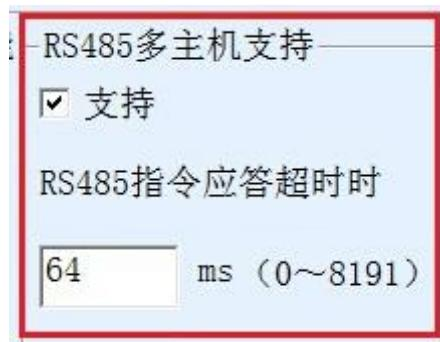
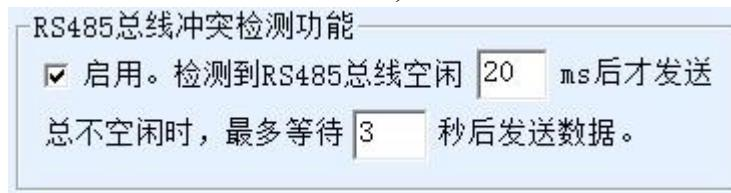

Figure 54 RS485 multi-host support
Figure 55 RS485 anti-collision idle time
1. Figure 55 shows the "RS485 bus anti-collision time", which can generally be set to twice the "packet interval" in the lower right corner of the parameter configuration interface, but the minimum cannot be less than 20.
2. Figure 54 shows the "RS485 command response timeout", which is generally determined based on the command length of the incoming and outgoing response. If the sent command is N bytes and the response is M bytes, then the recommended value is: "Data Packet Interval" $\times (N+M+5)+100$.
What needs to be noted at this time is that you need to remove the two check marks shown in Figure 55: "RS485 bus anti-collision time" and Figure 54: "RS485 command response timeout time". Otherwise, the above forwarding function cannot be realized.